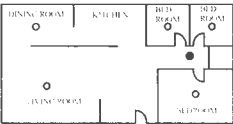
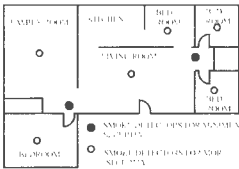

Figure 1: LOCATIONS FOR PLACING SMOKE DETECTORS FOR SINGLE RESIDENCE WITH ONLY ONE SLEEPING AREA
Figure 2: LOCATIONS FOR PLACING SMOKE DETECTORS FOR SINGLE-FLOOR RESIDENCE WITH MORE THAN ONE SLEEPING AREA
- Install a smoke detector in the hallway outside every separate bedroom area, as shown in Figure 1. Two detectors are required in homes with two bedroom areas, as shown in Figure 2.